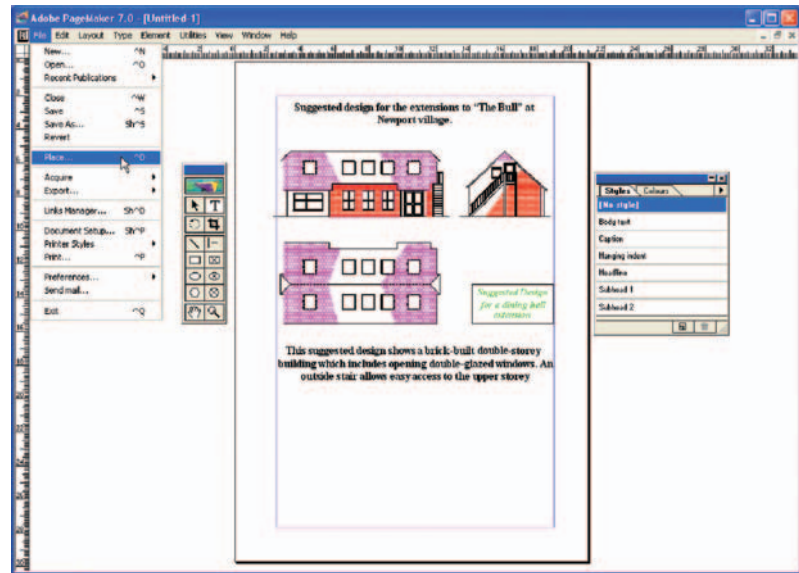

Fig. 10.5 An ***eps** file placed in position in a PageMaker document
Second example – EPS file (Fig. 10.5)
2. Open a desktop publishing application. That shown in Fig. 10.5 is **PageMaker**.
3. From the **File** drop-down menu *click Place...* A dialog appears listing files which can be placed in a PageMaker document. Among the files named will be **building.eps**. *Double-click* that file name and an icon appears the placing of which determines the position of the ***eps** file drawing in the PageMaker document (Fig. 10.5).